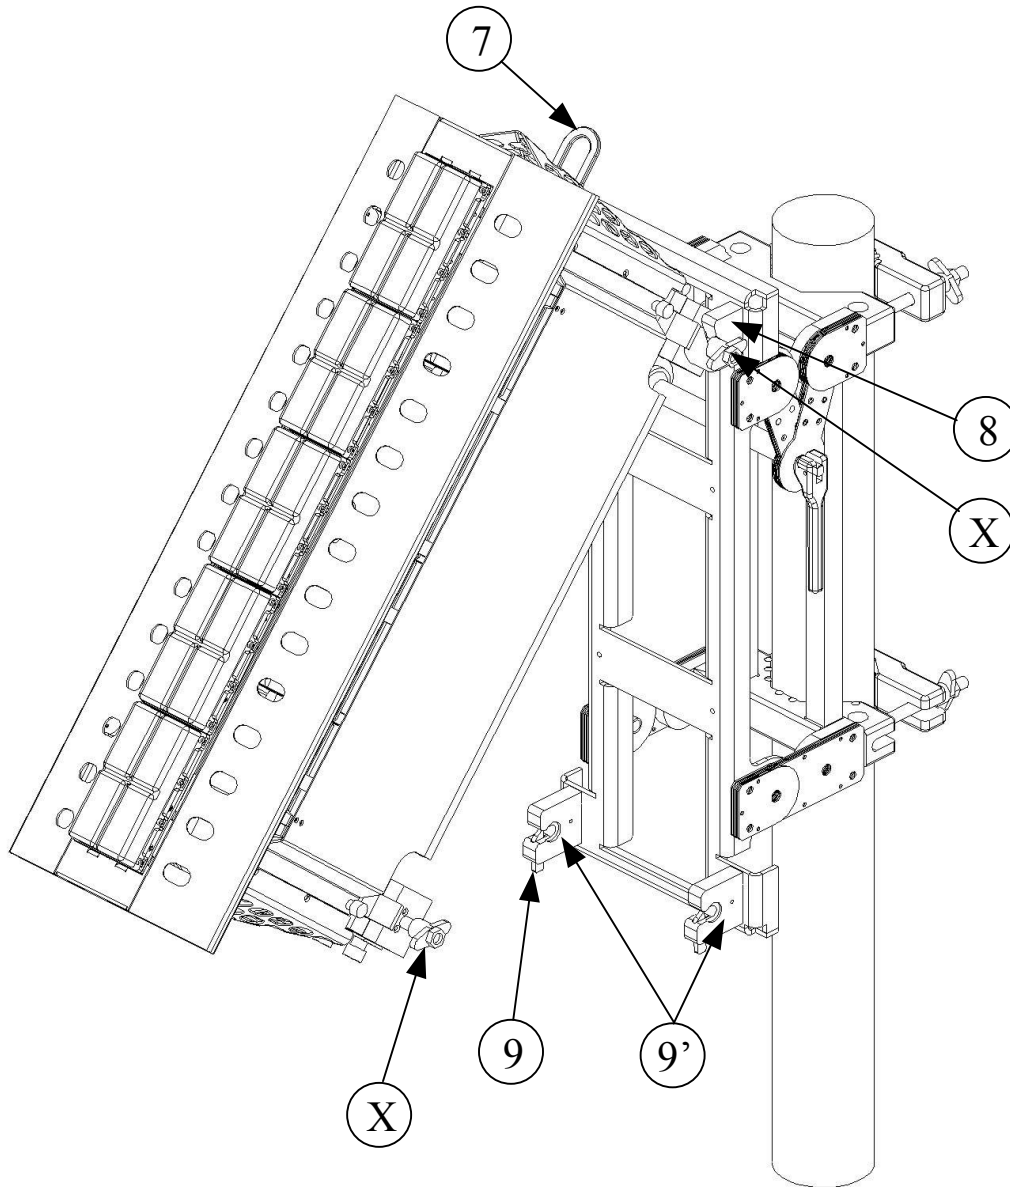

Figure 13: BEAMER® Array Mounting/Dismounting (Lower fork)
2.6.2. BEAMER® Array Mounting (Figures 13 and 14):
2.6.3. BEAMER® Array Dismounting (Figures 13 and 14):